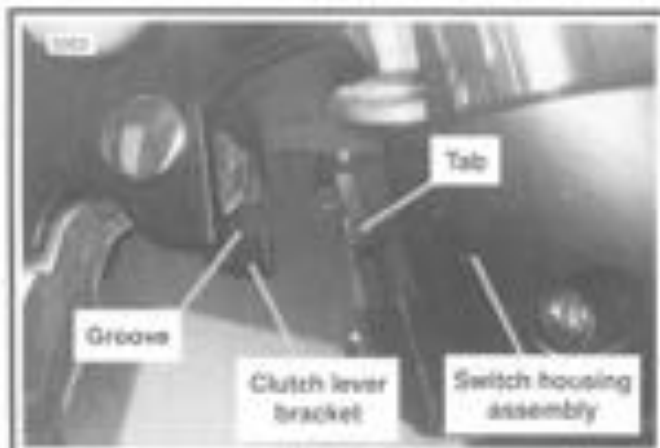
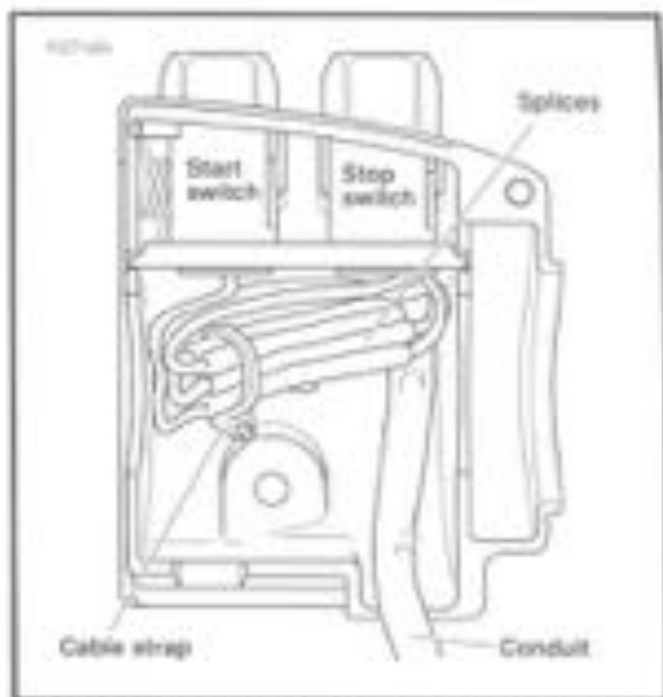

Figure 7-76. Fit Clutch Lever Bracket to Left Handlebar Switch Housings
Figure 7-78. Upper Right Handlebar Switch Housing (With Splices)
5. See Figure 7-76. Position the clutch lever assembly inboard of the switch housing assembly, engaging the tab on the lower switch housing in the groove at the bottom of the clutch lever bracket.
6. Loop switch wires so that spliced lengths are positioned as shown in Figure 7-78. Route wires downstream of splices beneath wing on engine stop switch side of bracket as seen in Figure 7-76.